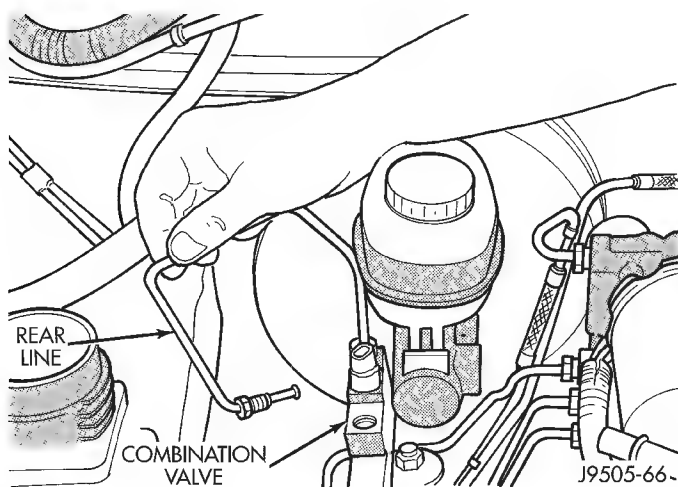

Fig. 9 Disconnecting Master Cylinder Rear Brakeline
(11) Disconnect master cylinder rear brakeline at cylinder. Then loosen line at combination valve and swing line around to opposite side of cylinder (Fig. 9).